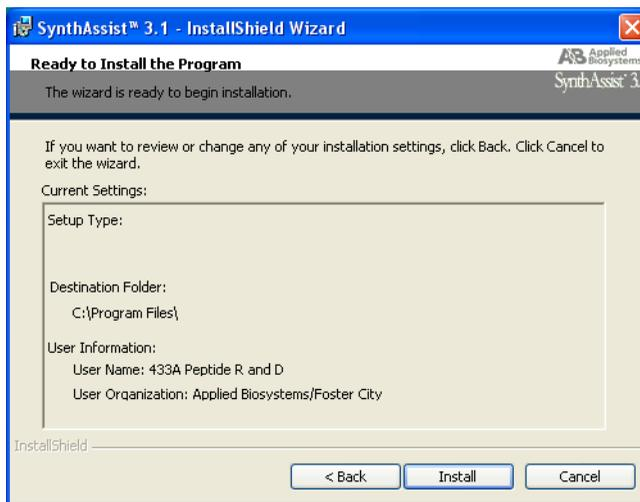

Figure 2-7 The Ready to Install the Program Screen
- Click **Install** on the Ready to Install the Program screen (Figure 2-7) to begin the installation of SynthAssist Software 3.1.